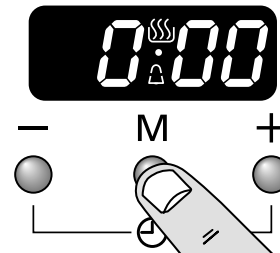
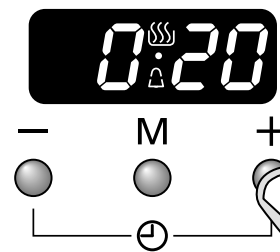

Fig. 5.2
Fig. 5.3
1. Press the mode [M] button once (**Fig. 5.2**). The bell symbol [🔔] will flash on the display. Select the desired countdown from 00:01h to 23:59h using the [+] button (**Fig. 5.3**). The countdown will automatically begin and the [🔔] symbol will show in the display.